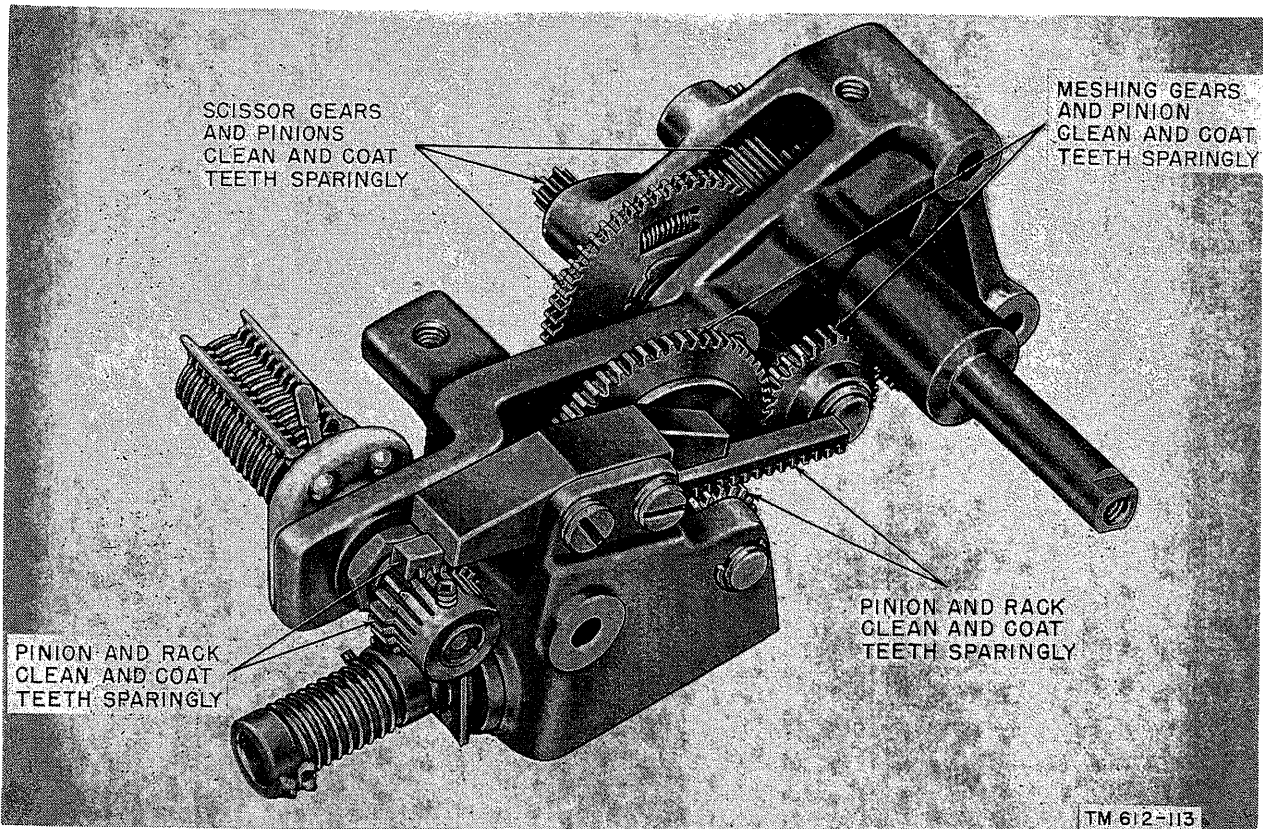

Figure 45. Top view of dial-drive mechanism.
f. Apply grease sparingly to all gears, pinions, and racks, as shown in figures 45 and 46. Use grease in accordance with MIL-G-3278 specification. Work the grease in and spread it by turning the dial knob from one end of travel to the other. Wipe off the excess lubricant from the sides of gears, pinions, and racks.